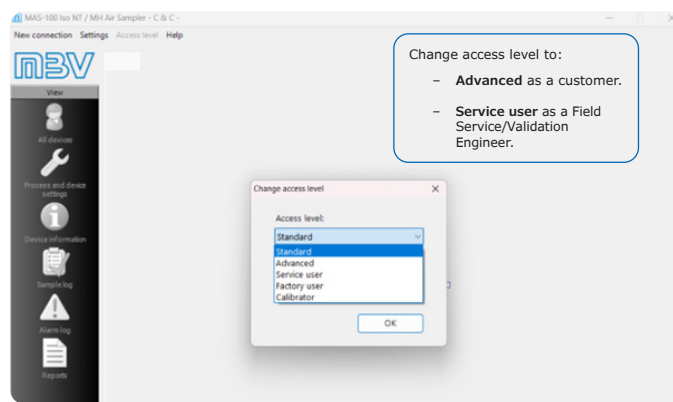

Figure 5: Select access level for the C&C software
- Select your access level (change according to your position) and click "OK" (**Figure 5**).